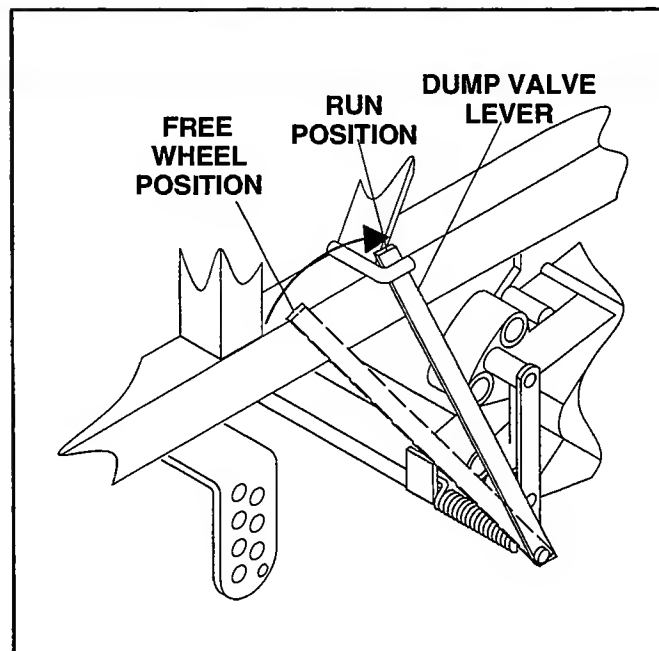

Figure 7
2. Move dump valve lever, on LH side of mower, behind hook on frame to close hydraulic dump valves on pump. (See Figure 7) Pull lever back and to the left, then push forward to relieve pressure.
To release drive wheel so machine will roll without engine running, pull dump valve lever for hydraulic dump valve back from hook on frame. Move to left and push forward to relieve pressure. Lever is on LH side of mower. (See **Figure 7** on page 7)